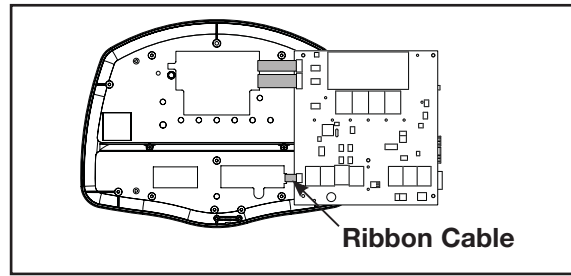

Figure 11
- C. Unplug the bottom membrane ribbon cable from the the main display PC board. See Figure 11.
- F. Plug the A/V membrane ribbon cable into the main display PC board. See Figure 11.